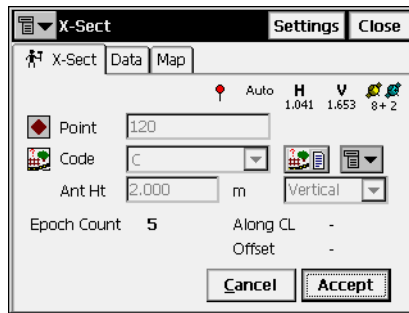

Figure 6-17. X-Sect
3. In the **X-Sect** screen (Figure 6-17 on page 6-16) perform the usual observation work relative to the cross section, as described in “Performing a Topo Survey” on page 6-12.